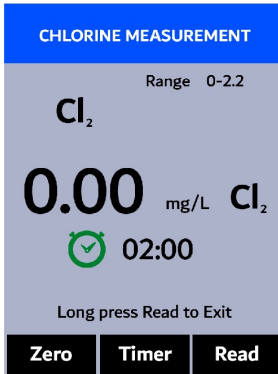

Figure 27.
3. Press **OK** () to launch the **CHLORINE MEASUREMENT** screen (Figure 27).
4. Rinse the main module sample cell three times with deionized (DI) water. Fill the sample cell with DI water.